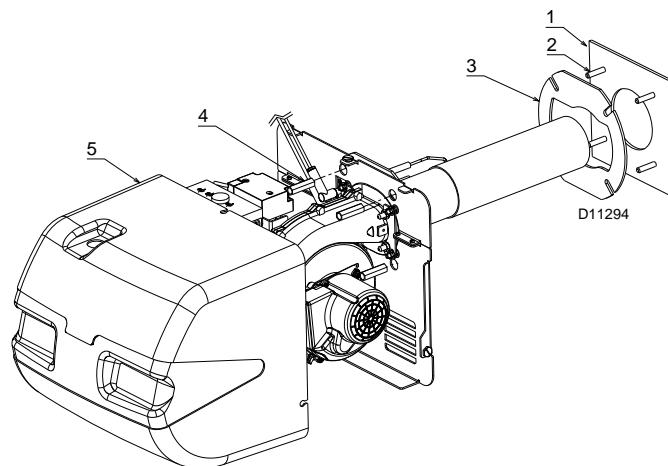

Fig. 7
- tighten the studs 2)(Fig. 7) on the boiler plate 1);